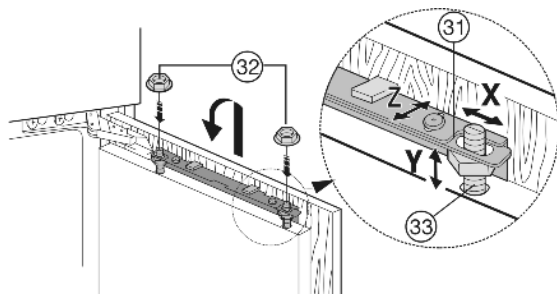

Fig. 27
- ▶ Attach the unit door to the adjusting bolts Fig. 27 (33) and loosely screw the locknuts Fig. 27 (32) onto them.
- ▶ To align the unit door in height and lateral inclination: set the adjusting bolts Fig. 27 (33) with a screwdriver.
- ▶ Tighten counter-nuts Fig. 27 (32).